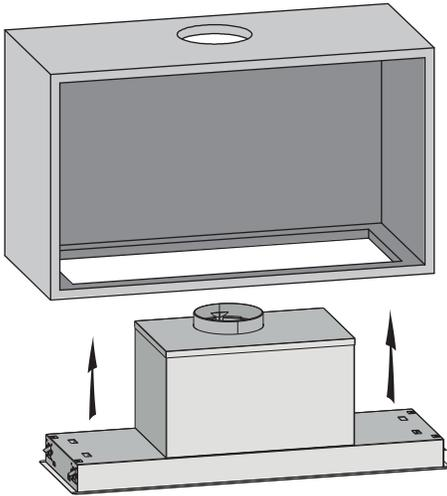

Figure 4
- Align range hood to the opening in the bottom of the cabinet and screw in with screws (see Figure 4 and 5).